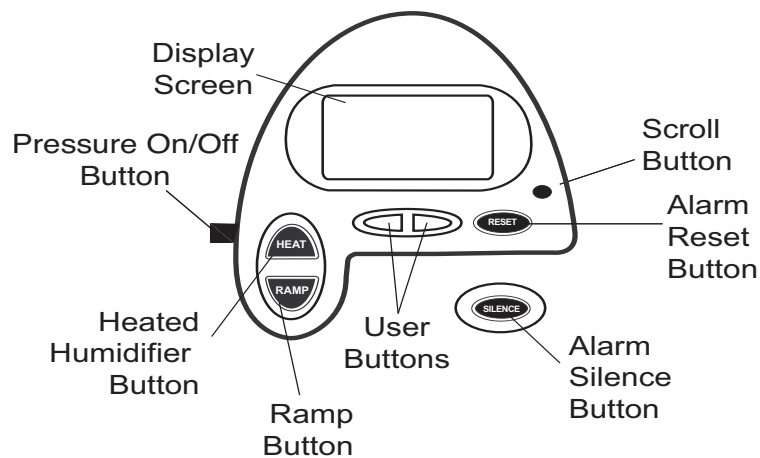

Figure 3-10 Control Panel
2. Press the **Right User** button and the **SILENCE** button simultaneously for at least two seconds (see Figure 3-10). **SETUP** appears in the top right corner of the display, and the EPAP Setting screen will display. This indicates that you are now in Provider mode.